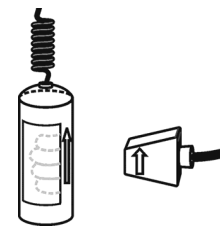

Figure 1
The Hand-Grip Heart Rate Monitor measures a person's heart rate by registering the small electrical signals carried across the surface of a person's skin each time his or her heart contracts. The Polar Transmitter Module detects each electrical signal from the heart through the electrodes on the hand grips. The heart rate information is then wirelessly transmitted using the Heart Rate Receiver or a Bluetooth radio to supported devices. The Heart Rate Receiver is marked with an alignment arrow. When collecting data using the receiver, it is **important** that the arrow on the receiver is aligned with the hand-grip as shown in Figure 1. **Note:** When using the receiver, make sure that the receiver is held close to the handgrips. The reception range of the plug-in receiver is 80–100 cm or about 3 feet.
1. Make sure that the Heart Rate Receiver is aligned with the hand grips as shown in Figure 1.